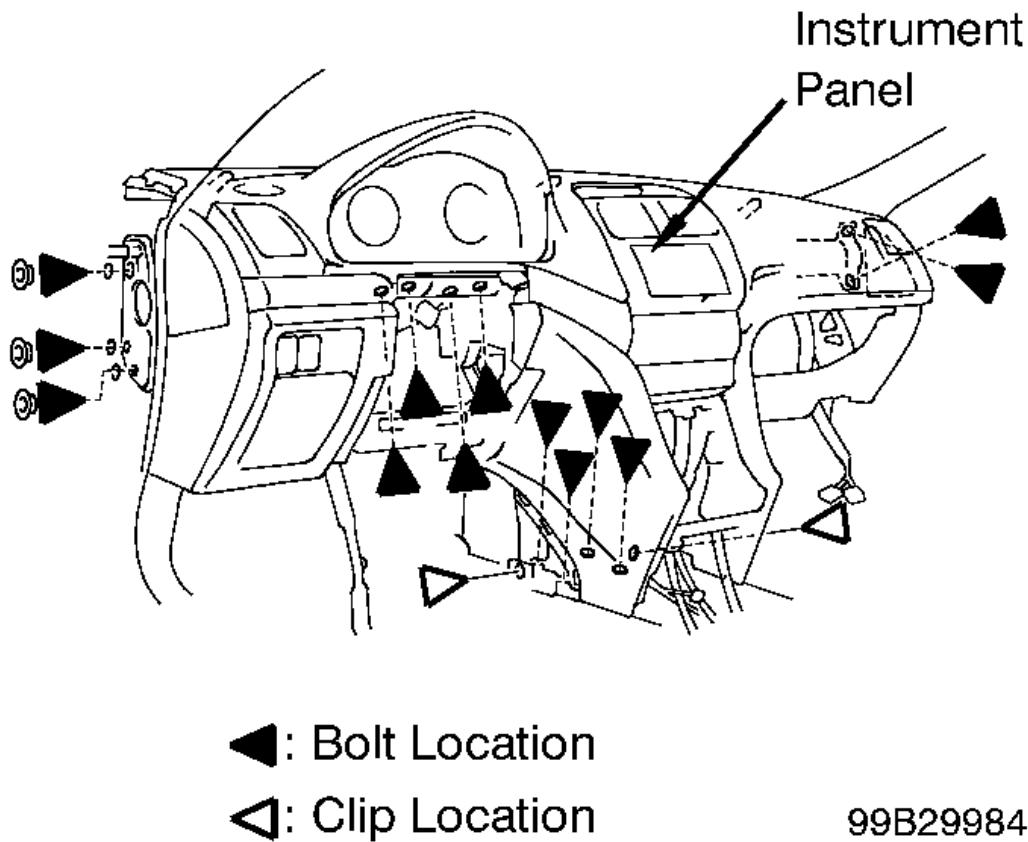

Fig. 18: Identifying Instrument Panel Mounting Bolt Locations
8. Remove bolt and brake pedal support member. Cover parking brake to protect it. Remove instrument panel mounting bolts and clips, then remove instrument panel. See **Fig. 18** . Lay instrument panel on front or rear of instrument panel. DO NOT lay it on lower console opening.